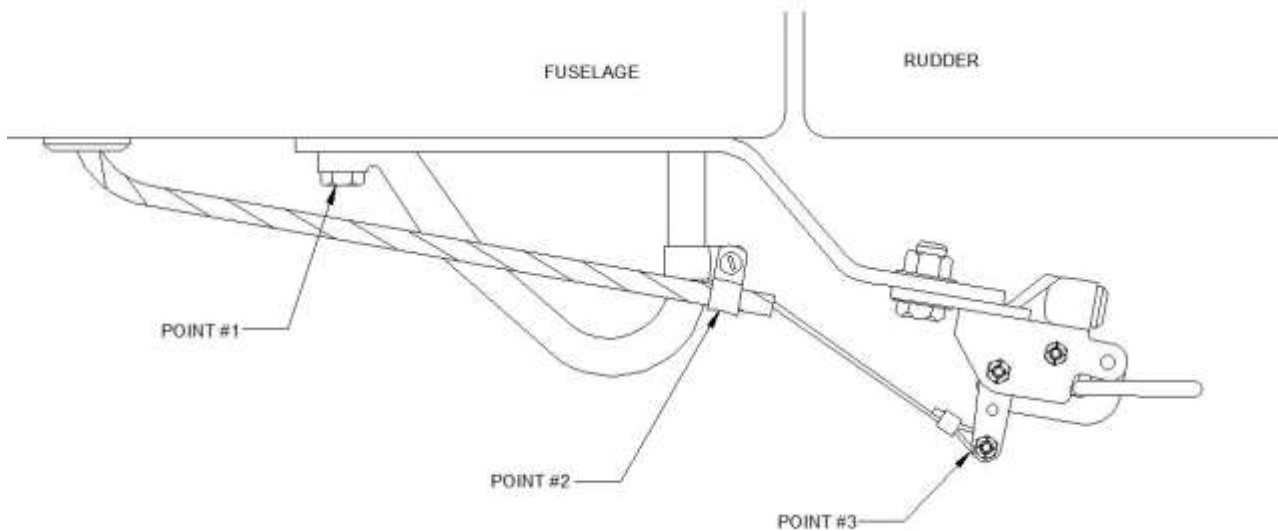

Figure 4.6: Tow Hook Installation on Piper Models PA-22, and Colt-108.
(2) Piper Models PA-22, and Colt-108. Refer to Figure 4.6 for clarification.